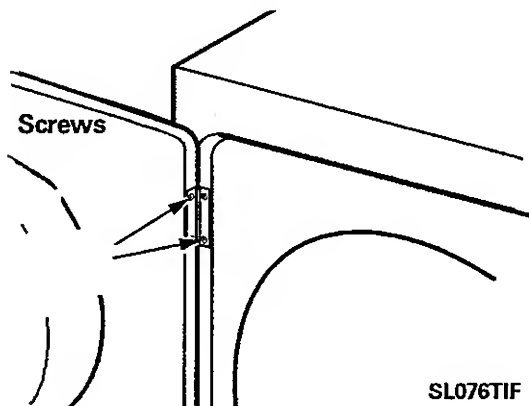

Figure 9-1
1. Open the door and remove the screws in each hinge secured to the inner flange of the front panel in the door opening (*Figure 9-1*).